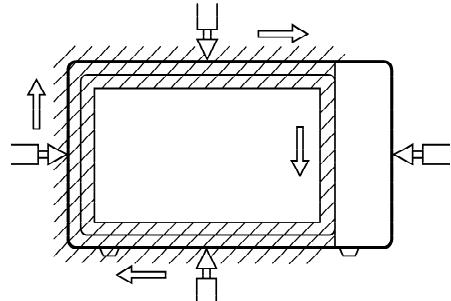

Figure 7
- (1) Pour 275 ± 15 cc of $20 \pm 5^\circ\text{C}$ water in a beaker which is graduated to 600 cc, and place the beaker in the center of the oven.
- (2) Set the energy leakage monitor to 2,450 MHz and use it following the manufacturer's recommended test procedure to assure correct result.
- (3) When measuring the leakage, always use the 2 inch (5cm) spacer supplied with the probe.
- (4) Operate the oven at its maximum output.
- (5) Measure the microwave radiation using an electromagnetic radiation monitor by holding the probe perpendicular to the surface being measured. (See Figure 7)